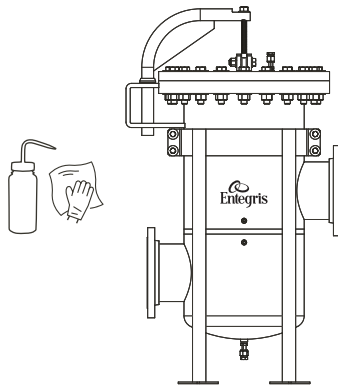

Figure 11.
1. Clean the inside and outside housing surfaces with wet IPA wipes (recommended IPA >95%), Figure 11.